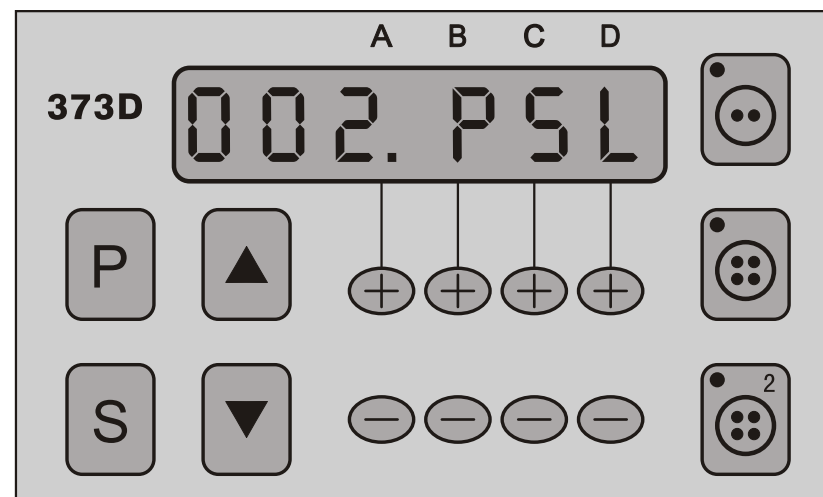

Figure 5-4, the acceleration curve adjustment% (user parameters 002.PSL) parameter number selection screen
2) Parameters Step 4.1 "How to Enter User parameters A zone" method, enter the user parameter A zone, use the or key to select the parameter number to "002.PSL", shown in Figure 5-4